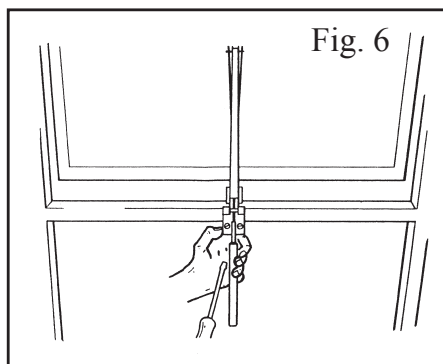

Fig. 6
4. Tighten the sillbracket of the opener onto the centre of the windowsill – see Fig.6.